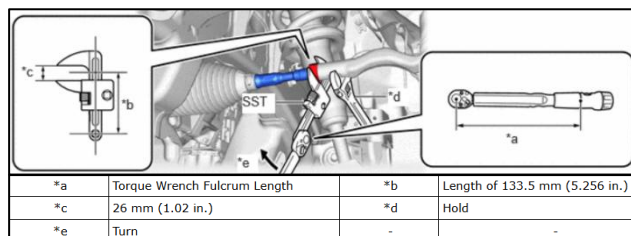

Fig. 25-3
- (4) Using SST, tighten the lock nut of the tie rod end sub-assembly on both sides of the vehicle (Fig. 25-3).